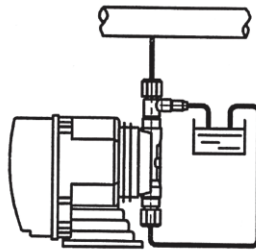

FIGURE 1
- A) The ideal installation location of the pump should always be lower than the liquid level of the tank and the injection part should always be higher than the liquid level of the tank. This will make for an ideal mounting location since the liquid can enter the pump head by its own weight and push air in the pump head out. It also aids in starting the pump for the first time. (Figure 1).